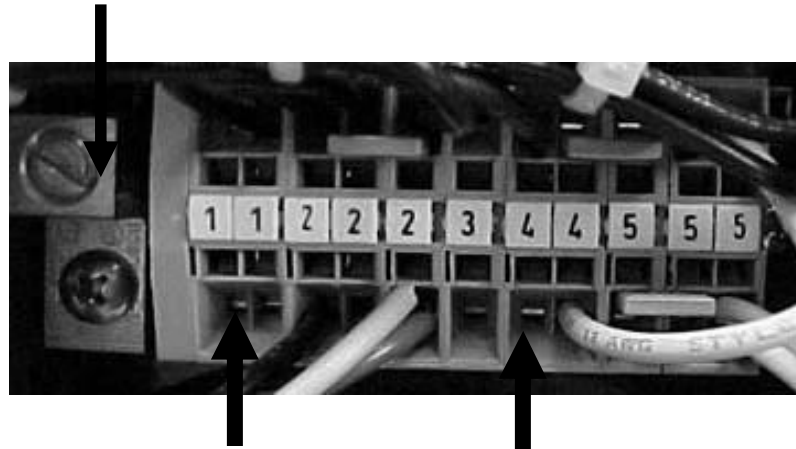

Figure 5.
2. Attach the **Line voltage wire to the first Terminal-1 slot** and the **Neutral lead to the first Terminal-4 slot**. Connect the **Ground wire to the ground lug** (see Figure 5 below).